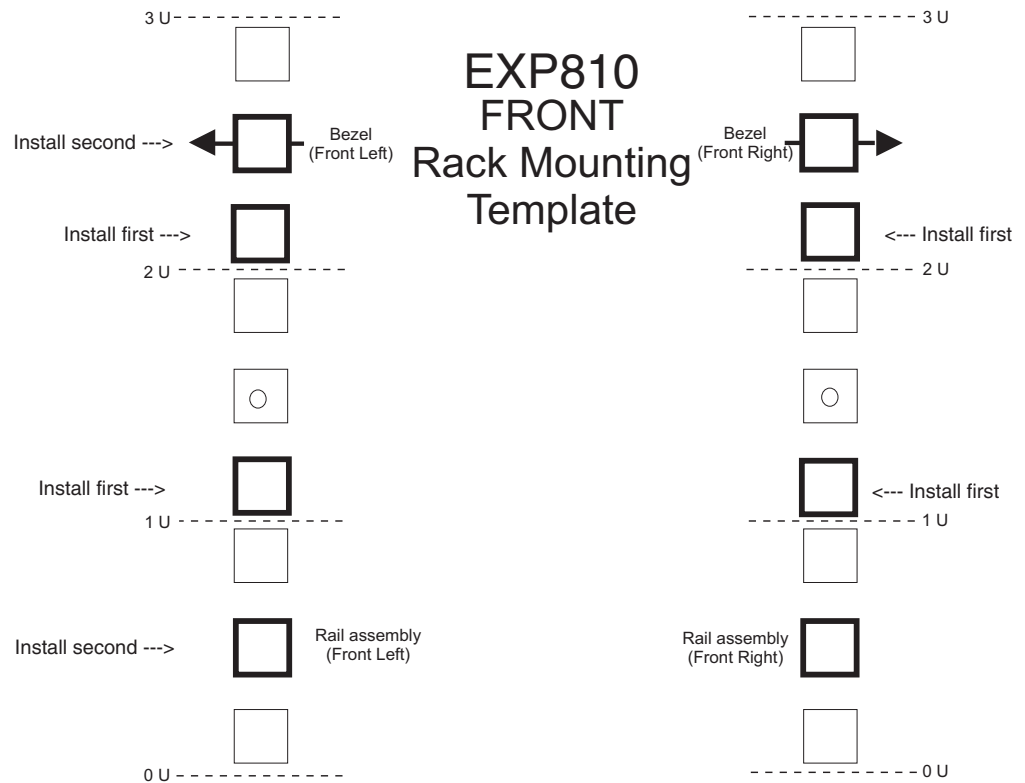
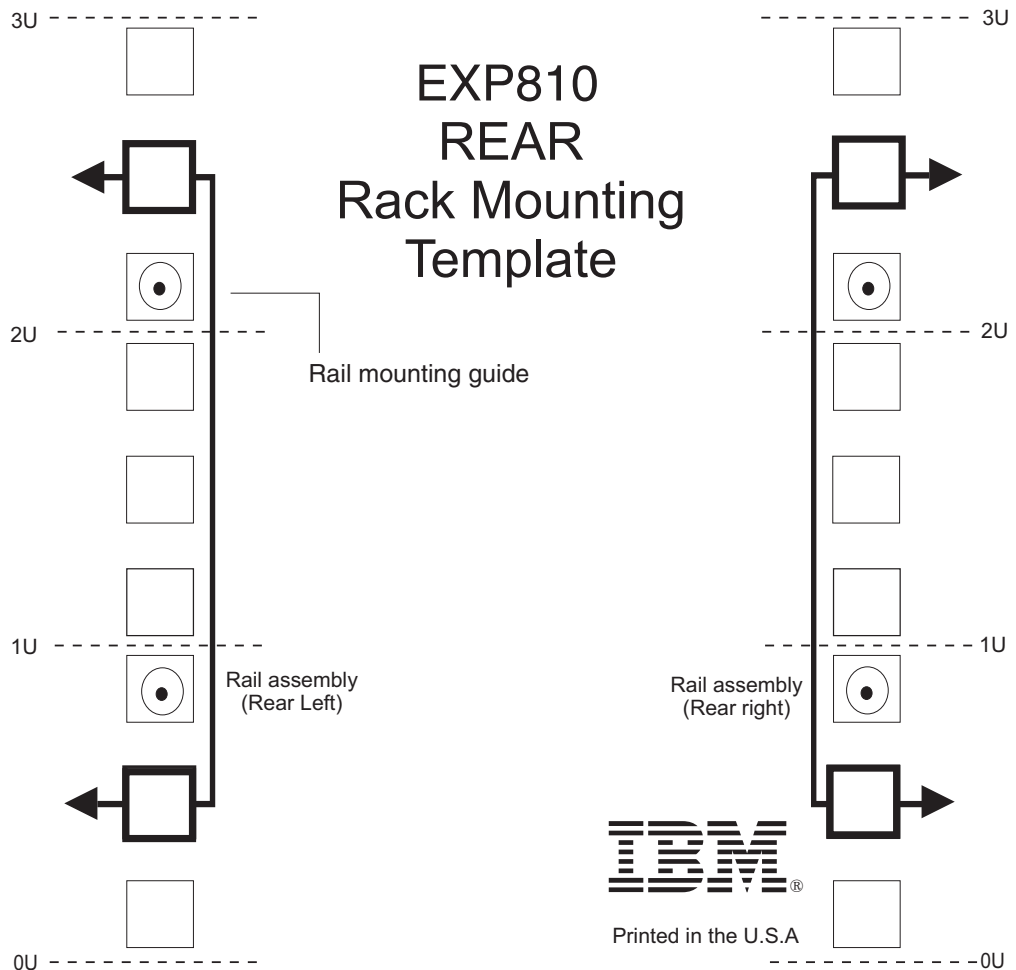

Figure 15. Front rack mounting template
Figure 16. Rear rack mounting template
Use the following templates (Figure 15 and Figure 16 on page 34) to identify the proper locations for inserting M5 screws when mounting the support rails and EXP810 to a rack. The locations for the M5 screws are highlighted in the templates.
Attention: Use the rack mounting template provided in Figure 15 on page 33 and Figure 16 on page 34 to locate the proper rack mounting holes for installing the support rails into the rack.
- Hold the back of the rail against the inside of the rack-mounting flange. Make sure the rail mounting guide pins are in the correct holes. See Figure 16 on page 34 for illustration.
Note: Be sure to install the screws labeled *install first* in Figure 15 on page 33.